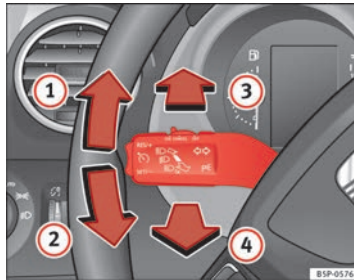

Fig. 77 Turn signal and main beam headlight lever
- Move the lever all the way up ⇒ Fig. 77 ① to indicate **right**, and all the way down ② to indicate **left**.
- If the dipped lights are on, push the lever forward ⇒ Fig. 77 ③ to switch on the main beam.
- Push the lever towards the steering wheel ⇒ Fig. 77 ④ to switch off the main beam.